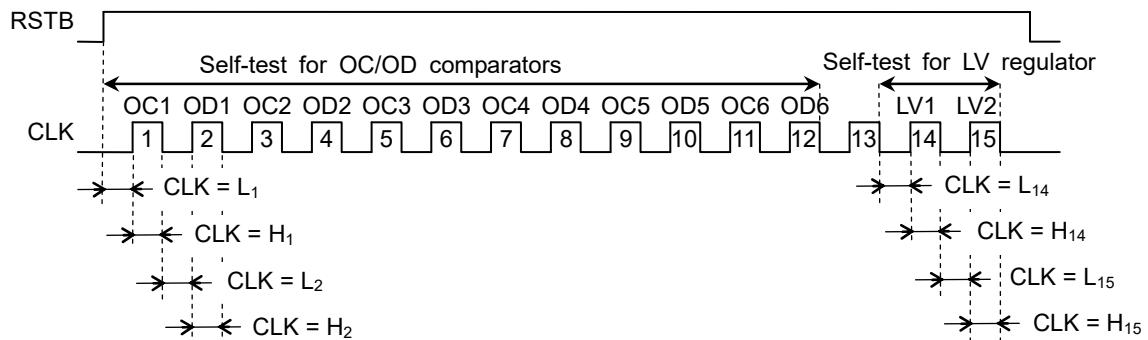

Figure 11
- 14th and 15th clocks : Performs abnormal high voltage and low voltage diagnostics for the LV regulator (Refer to **Figure 11**)